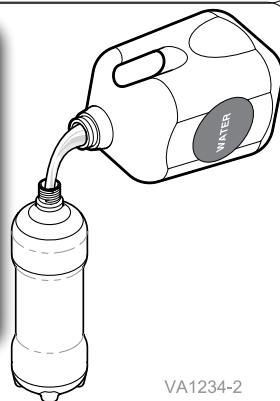

Fig. 2
2. Water Bottles: Remove, fill with distilled water and replace. (Fig.2)
- C. Fill Water Bottles** (Fig. 2)